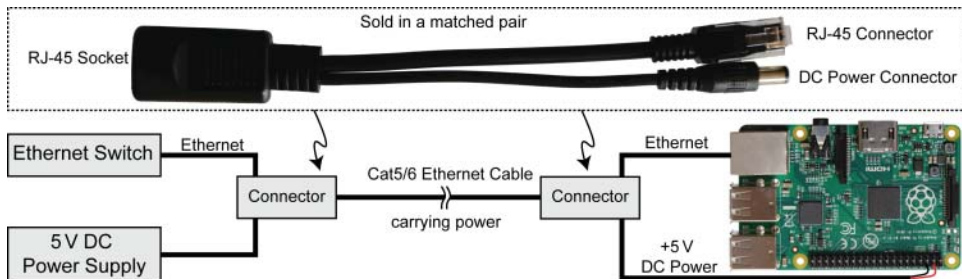

Figure 12-23: AdaFruit pseudo-PoE cable
1. **Use a pseudo-PoE cabling structure:** Adafruit sells a *Passive PoE Injector Cable Set* (~\$6), illustrated in Figure 12-23, for which you can use a regular 5 V mains supply to inject power into the unused twisted pair wires, and then draw that power at the other end of the cable. You can use the crimp tool that is described in Chapter 4 to terminate the DC power connector with a DuPont connector so that it can be attached to the RPi GPIO header (e.g., pins 4 and 6). **Do not connect such cables to a true PoE switch!**
One problem with the arrangement in Figure 12-23 is that the 5 V supply voltage will drop as the cable length increases due to the impact of cable resistance. Recently, low-cost network switches have become available that offer PoE functionality. *Power extraction modules* (PEMs) can be purchased to step down the 48 V DC voltage that is supplied by these switches to lower, fixed DC levels (e.g., 3.3 V, 5 V, 12 V). The low-cost (\$10–\$15) PEM that is used in this section is the PEM1305 (tiny.cc/erpi1205), which can be used to supply 5 V to the RPi. PoE